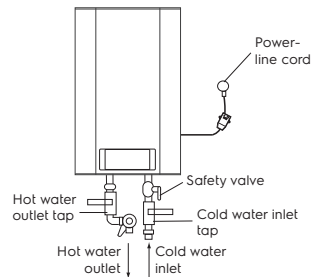

Figure 9
1. Installation of water heaters of Fmx EEC, FmxDL EEC series is greatly facilitated by the ability to install them both vertically and horizontally anywhere in your house, in a heated (!) room. It is advisable to install the water heater as close as possible to the point of use of hot water, because the shorter the length of the pipes, the less heat loss is. As shown in Fig. 9, when installing the water heater horizontally, the supply
3. The safety valve should be mounted at the water inlet (see figure 9).